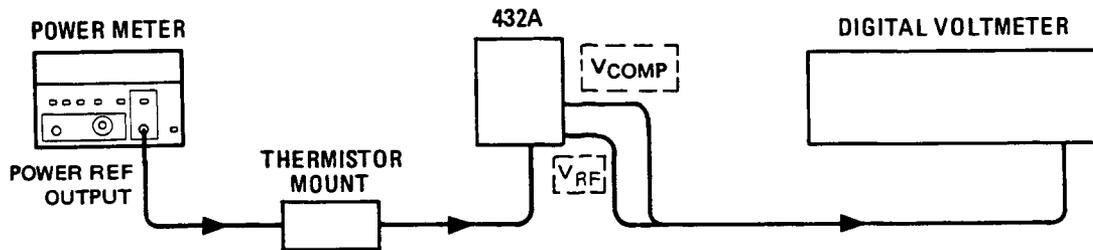

Figure 4-4. Power Reference Level Test Setup
3. Connect the 432A to the Power Meter as shown in Figure 4-4.